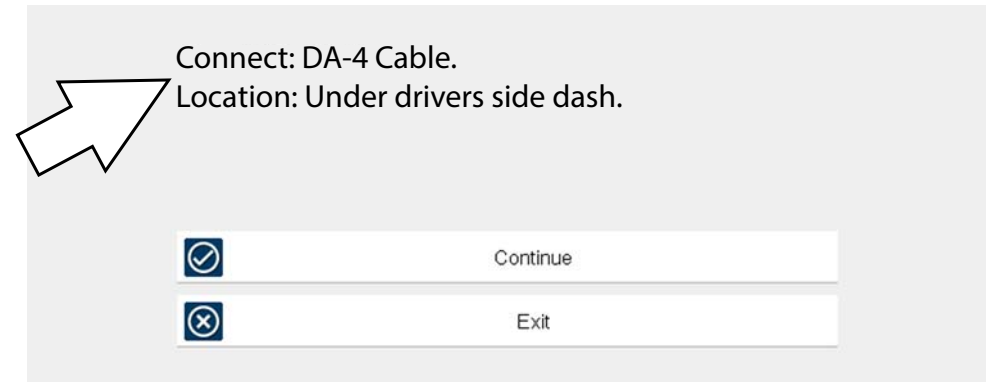

Figure 4-2 Vehicle data cable connection information
2. After identifying the vehicle using the Scanner or OBD-II/EOBD function (see Vehicle Identification on page 16) review any on-screen information that may be provided for data cable connection, usage and DLC location (Figure 4-2).